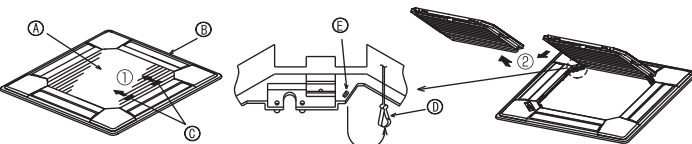
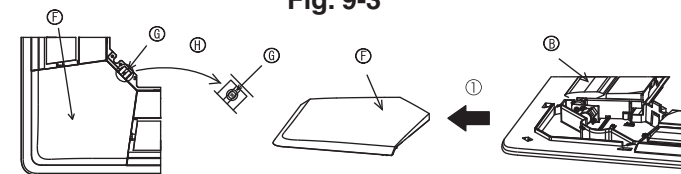

Fig. 9-3
Fig. 9-4
9.2.1. Removing the intake grille (Fig. 9-3)
- Slide the levers in the direction indicated by the arrows ① to open the intake grille.
- With the intake grille in the "open" position, remove the hinge of the intake grille from the grille as indicated by the arrows ②.
9.2.2. Removing the corner panel (Fig. 9-4)
- Remove the screw from the corner of the corner panel. Slide the corner panel as indicated by the arrow ① to remove the corner panel.
[Fig.9-3] [Fig.9-4]